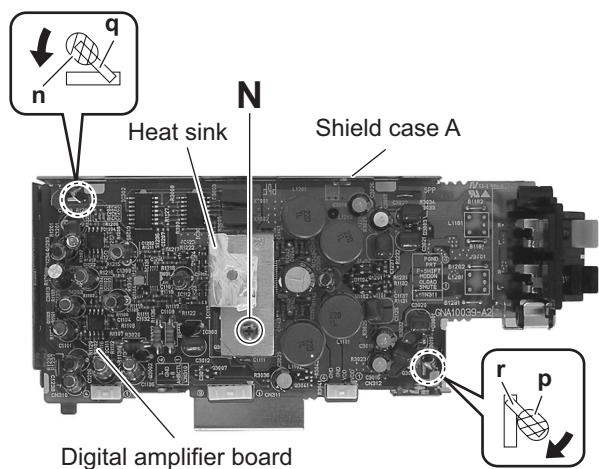

Fig.18
- (4) From the forward side of the digital amplifier board, remove the screw **N** attaching the heat sink. (See Fig.18.)
- (5) Remove the solders from the soldered sections (**n**, **p**) and bend the sections (**q**, **r**) of the shield case A in the direction of the arrow. (See Fig.18.)
- (6) Take out the digital amplifier board from the shield case A.